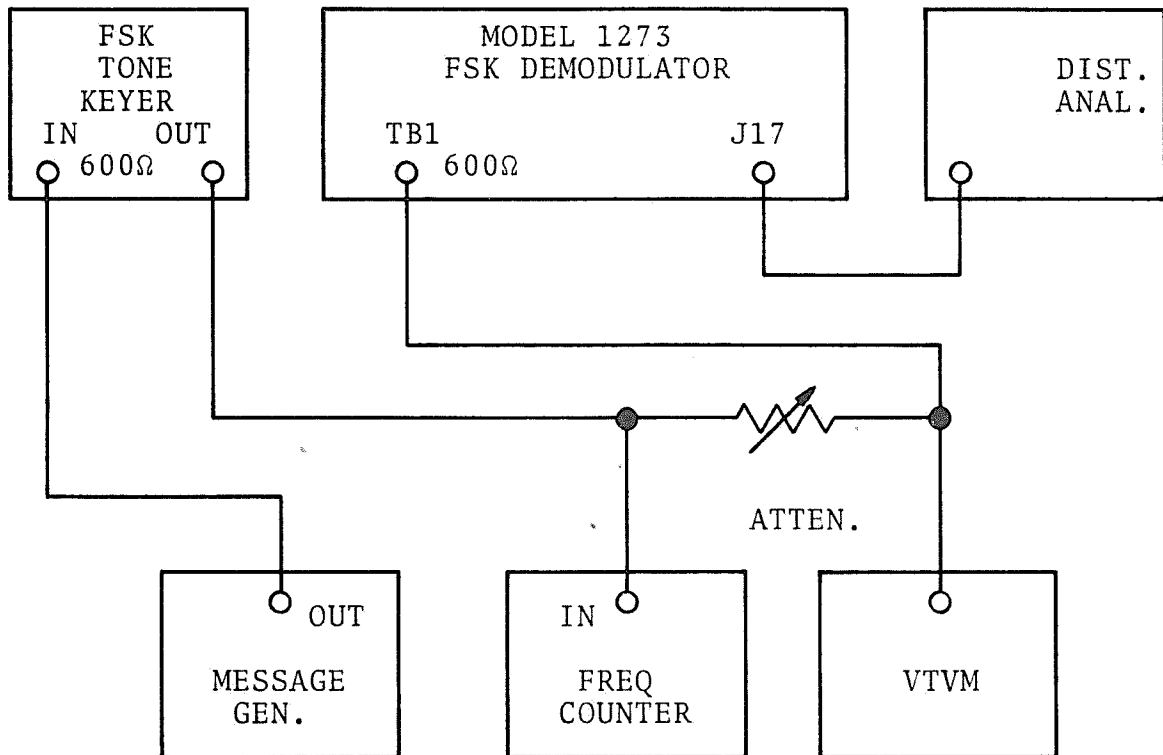

Figure 5-2. Test Setup, Mark/Space DTC Offset Adjustment
2. Connect the FSK output of the tone keyer as illustrated in Figure 5-2, with the FSK signal connected to pins 12 and 13 of TB1.